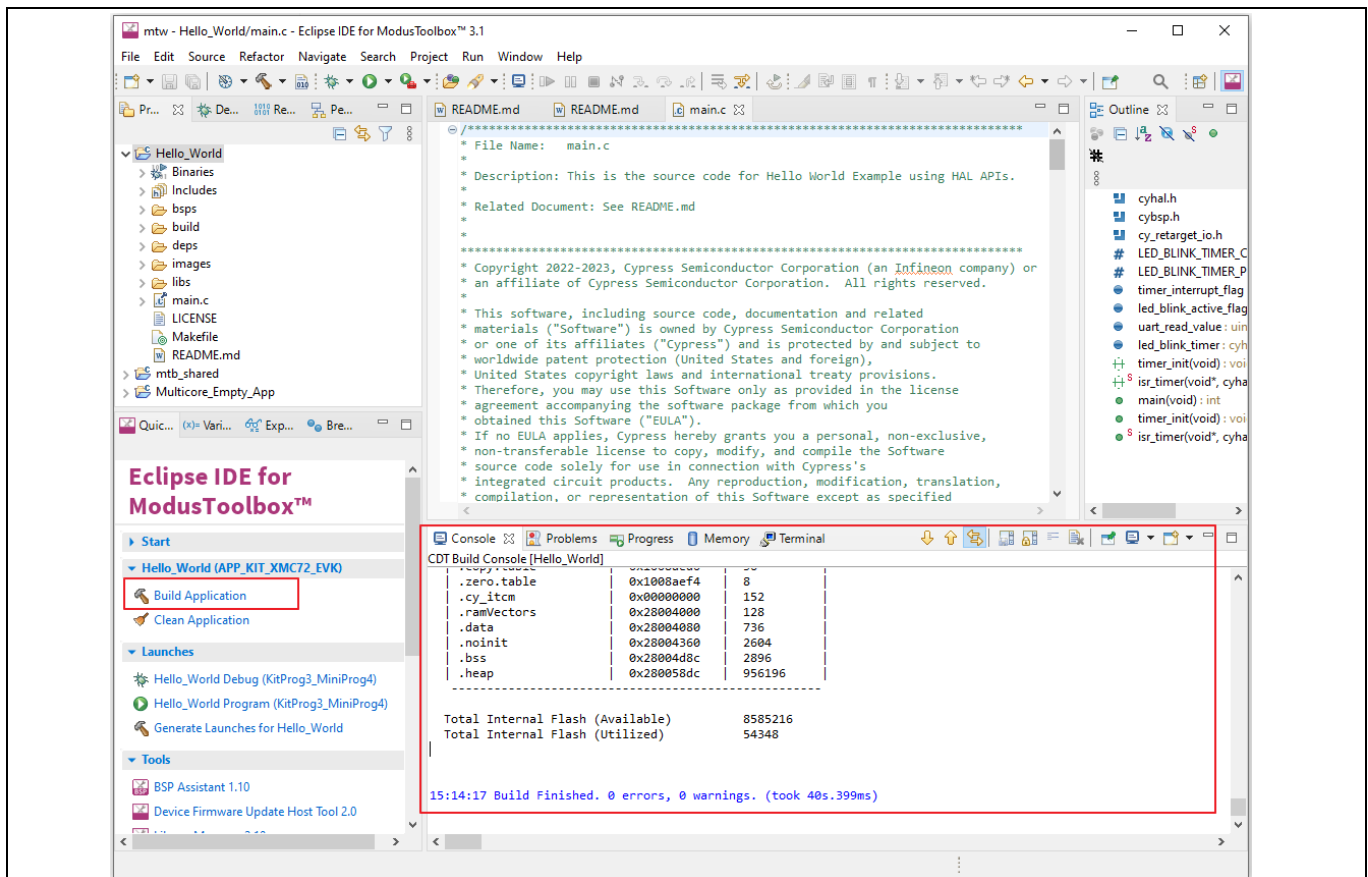

Figure 11 Build the single application
b) The **Console** view lists the results of the build operation, shown in Figure 11.